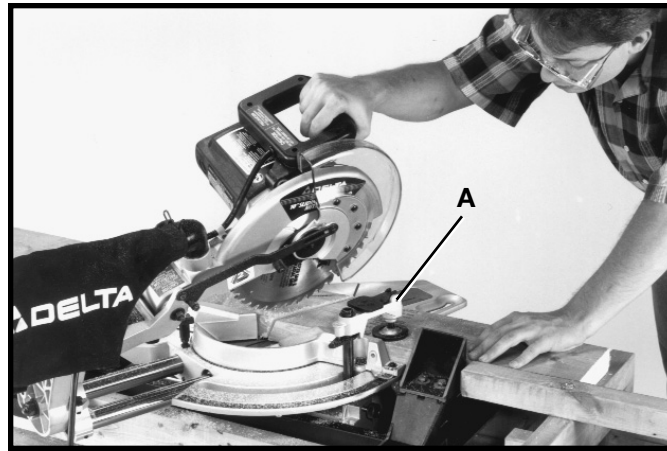
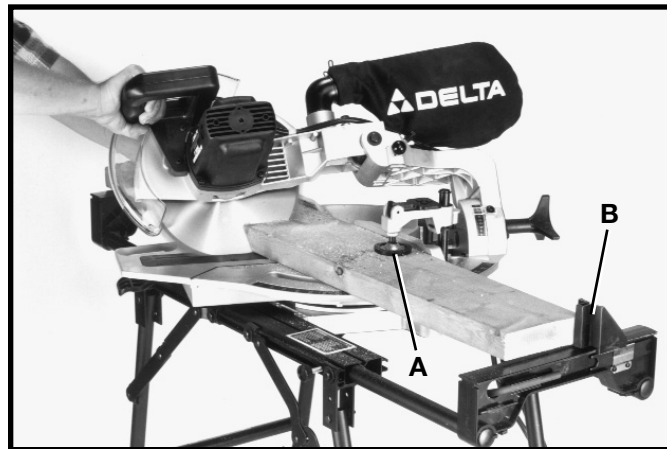

Fig. 79
Fig. 80
Figures 79 and 80 illustrate a compound miter/bevel cut being made using the work clamp (A), which is used to firmly hold the work against the table, and the auxiliary fence (B), which has been adjusted to be used as a stock stop. **IMPORTANT:** When the work clamp (A) is used in conjunction with the stock stop (B) Fig. 80, should **ALWAYS** be on the same side of the saw blade. This is important as it prevents the free end of the workpiece from binding between the blade and the stock stop.